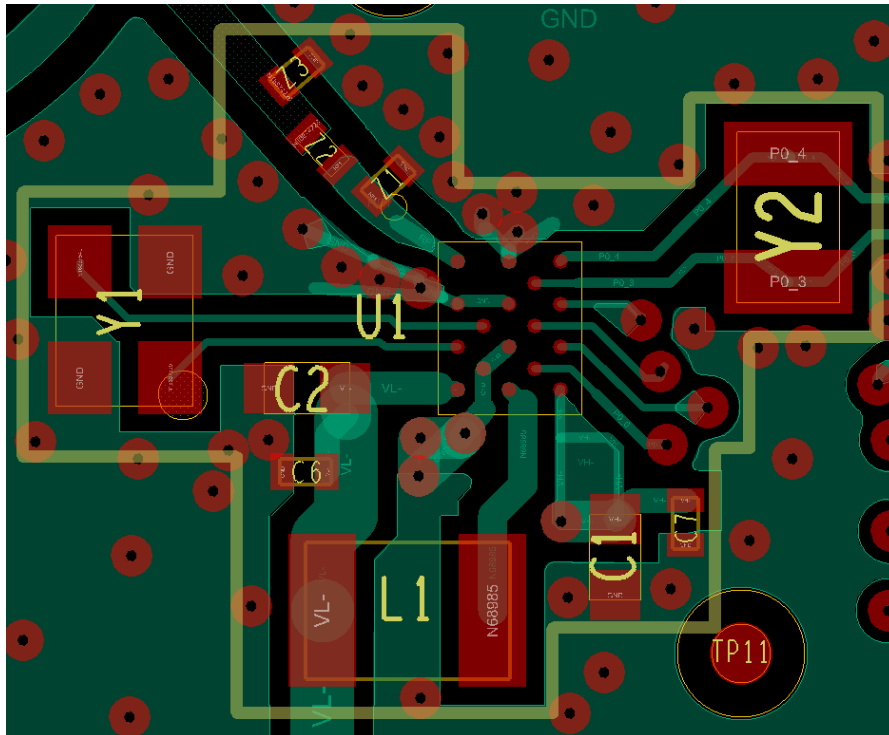

Figure 37: WLCSP17 - PCB Placement and Routing – Top Layer
- Connect pin A3 to GND with a via as shown in Figure 37
- Short C1, C3, and E3 pins together and use two or more GND vias, as shown in Figure 37
**RF strip:** calculate and route a 50 Ohm RF stripline between the DA14531 RFIOp pin and the antenna. A low-pass filter that consists of three components (Z1, Z2, Z3) must be put as close as possible to the chip. Both capacitors must be grounded on the same side of the RF stripline (RFIOm). See Figure 37.